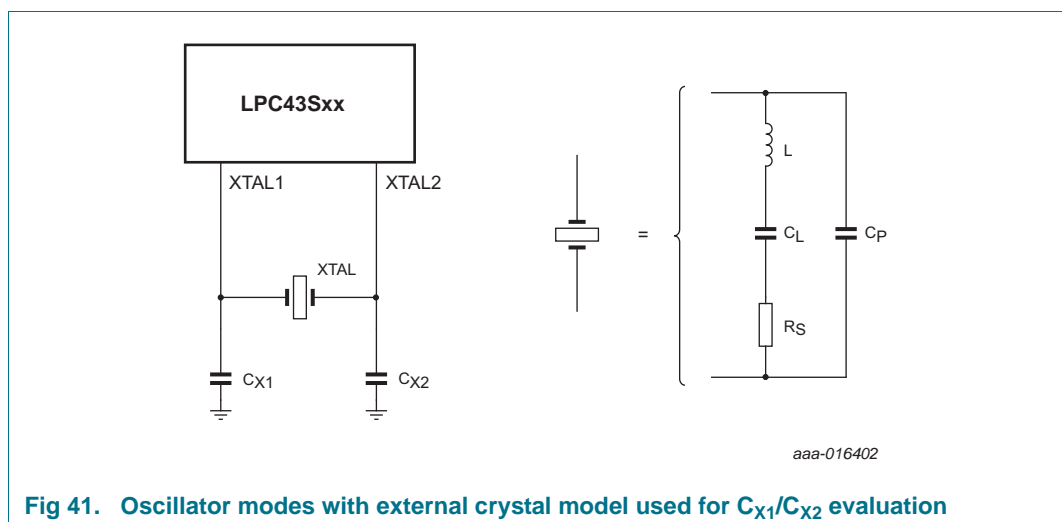

Fig 41. Oscillator modes with external crystal model used for C_{X1}/C_{X2} evaluation
- External components and models used in oscillation mode are shown in Figure 41, and in Table 42 and Table 43. Since the feedback resistance is integrated on chip, only a crystal and the capacitances C_{X1} and C_{X2} need to be connected externally in case of fundamental mode oscillation (the fundamental frequency is represented by L, CL and RS). Capacitance C_P in Figure 41 represents the parallel package capacitance and should not be larger than 7 pF. Parameters FC, CL, RS and CP are supplied by the crystal manufacturer.